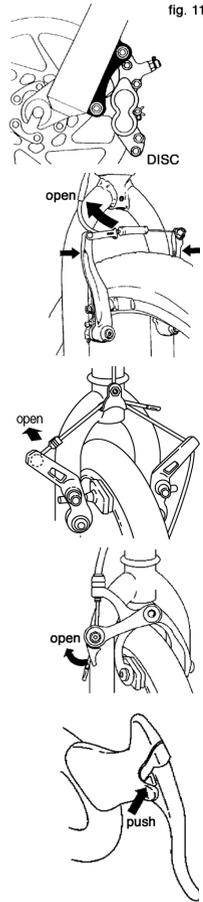

fig. 11
(1) If your bike has rim brakes, disengage the brake's quick-release mechanism to open the clearance between the tire and the brake pads (See Section 4.C fig. 11 through 15).
(1) Shift the rear derailleur to high gear (the smallest, outermost rear sprocket).
(2) If your bike has rim brakes, disengage the brake's quick-release mechanism to open the clearance between the wheel rim and the brake pads (see Section
4.C, figs. 11 through 15).
(1) If your bike has rim brakes, disengage the brake's quick-release mechanism to open the clearance between the tire and the brake pads (see Section 4.C, figs. 11 through 15).
(2) Using a correct size wrench, loosen the two axle nuts.
(3) If your front fork has a clip-on type secondary retention device, disengage it and go to the next step. If your front fork has an integral secondary retention device, loosen the axle nuts enough to allow wheel removal; then go to the next step.
(4) Raise the front wheel a few inches off the ground and tap the top of the wheel with the palm of your hand to knock the wheel out of the fork ends.
(2) Shift the rear derailleur to high gear (the smallest rear sprocket) and pull the derailleur body back with your right hand.
(3) Using the correct size wrench, loosen the two axle nuts.
(4) Lift the rear wheel off the ground a few inches and, with the derailleur still pulled back, push the wheel forward and down until it comes out of the rear dropouts.
3. Some bicycle brakes, such as disc brakes (fig. 11) and linear-pull brakes (fig.12), are extremely powerful. Take extra care in becoming familiar with these brakes and exercise particular care when using them.
inoperative. Ask your dealer to make sure that you understand the way the brake quick release works on your bike (see figs. 11, 12, 13, 14 & 15) and check each time to make sure both brakes work correctly before you get on the bike.